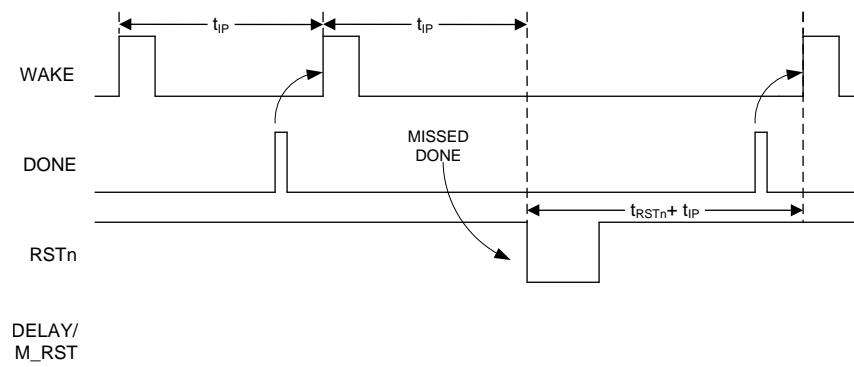
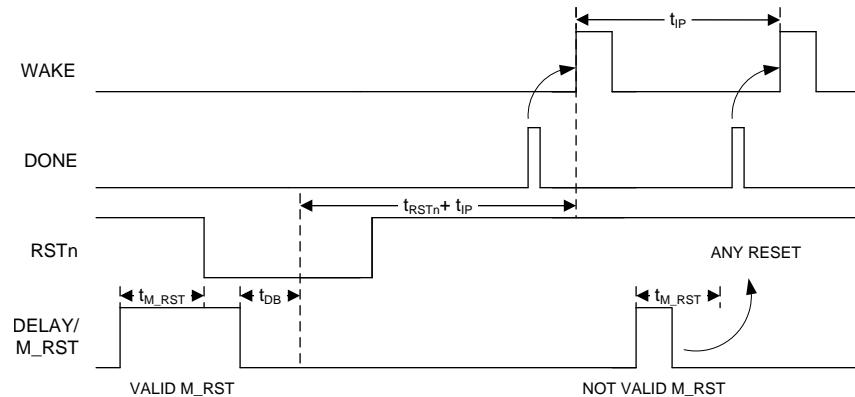

Figure 8. Watchdog
Figure 10. Manual Reset
- 2. At the beginning of a new time interval if DONE is not received at least 20 ms before the next WAKE rising edge (see Figure 8).
During normal operating mode, the TPL5010-Q1 asserts periodic WAKE pulses in response to valid DONE pulses from the µC. If either a manual reset is applied (logic HIGH on DELAY/M_RST pin) or the µC does not issue a DONE pulse within the required time, the TPL5010-Q1 asserts the RSTn signal to the µC and restarts its internal counters. See Figure 8 and Figure 10.